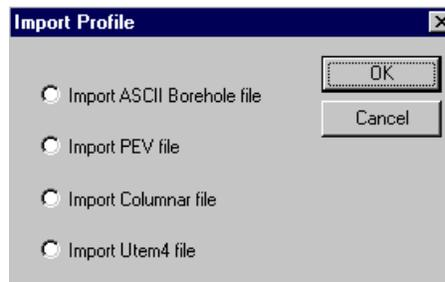

Fig. 4a
- Select **Import ASCII Borehole File** in the **Import Profile** dialog (Fig. 4a) and click **OK**
- Select **Import PEV file** in the **Import Profile** dialog (Fig. 4a) and click **OK**
- Select **Import Columnar File** in the **Import Profile** dialog (Fig. 4a) and click **OK**